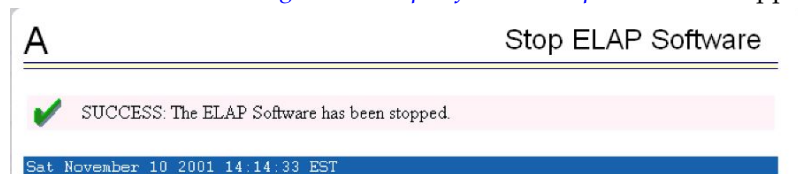

Figure 47: Stop Software Completion Screen
- On the **Stop ELAP Software** screen, make sure the checkbox is checked as shown in Figure 47: Stop Software Completion Screen.
The screen shown in Figure 47: Stop Software Completion Screen appears.